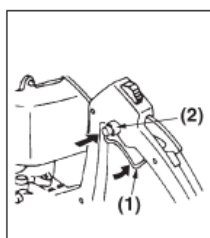

FIG. 2
2. Pull the throttle lever and push the lock button to set the lever in the START position. (Fig. 2)